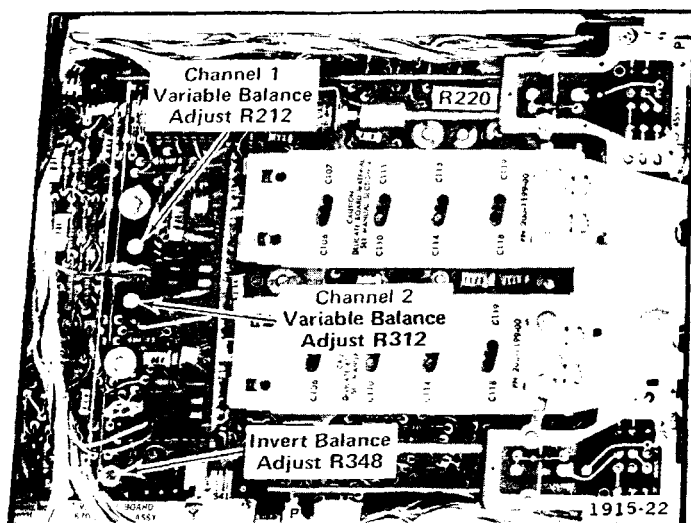

Fig. 5-4. Location of Channel 1 and 2 balance adjustments.
- ADJUST—Variable Balance adjust R312 (see Fig. 5-4) for minimum trace shift when rotating the CH 2 VAR VOLTS/DIV control.
m. ADJUST—Invert Balance adjustment R348 (see Fig. 5-4) for minimum trace shift when inverting the Channel 2 display.